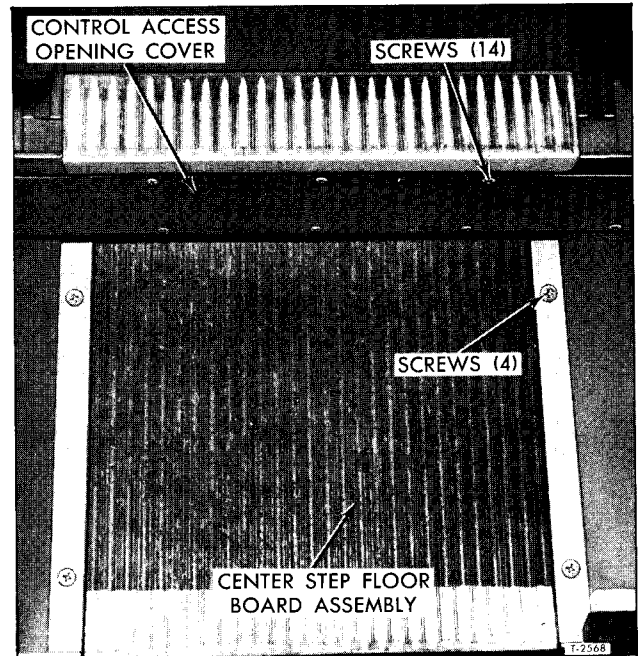
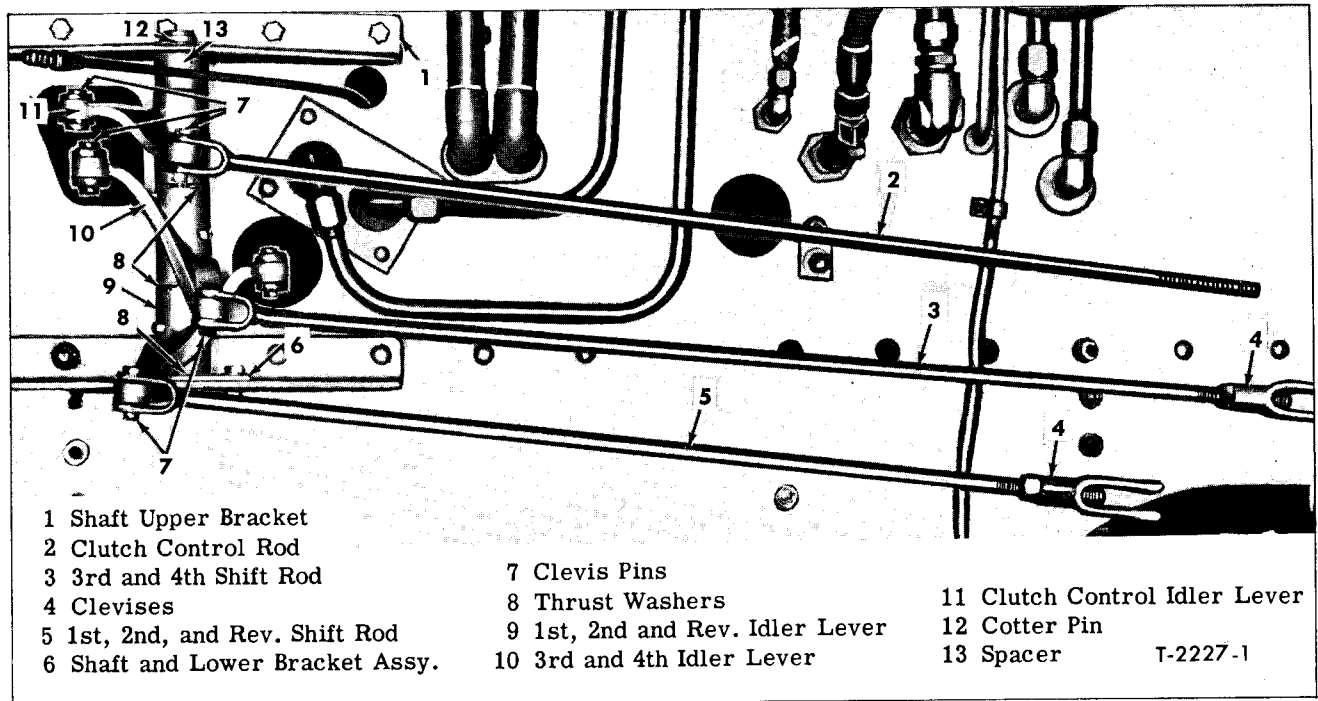
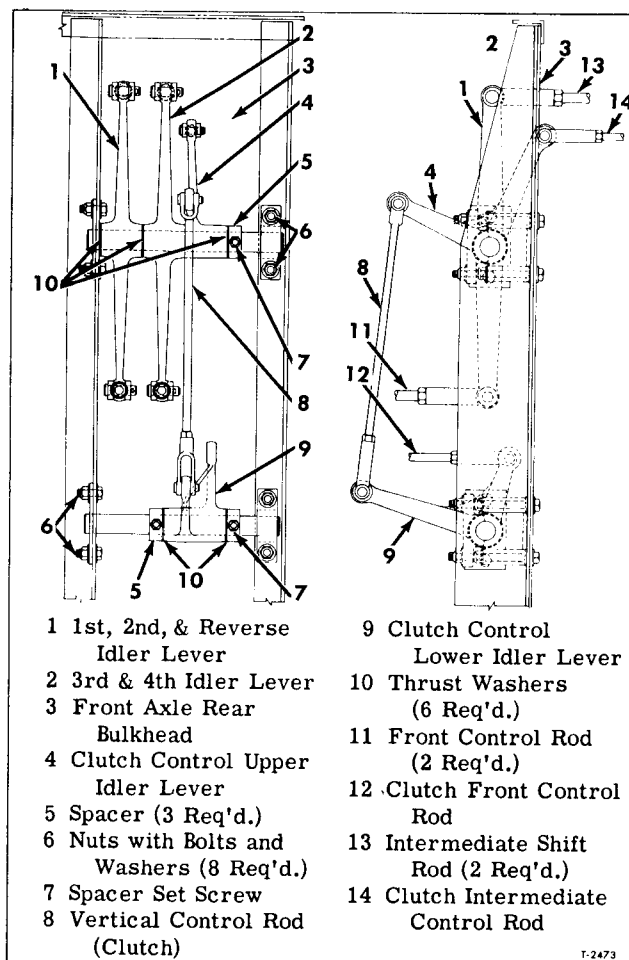

Figure 3—Control Access Cover Installation
Figure 5—Control Levers at Engine Compartment Bulkhead
Figure 6—Intermediate Idler Lever Installation
1. Remove 14 screws securing control access opening cover and 4 screws securing floor board at center step as shown in figure 3, and remove cover and floor board.
2. With clevises at end of shift rods (14) connected to idler levers (17), observe position of idler levers on bulkhead at rear of front axle and on engine compartment bulkhead. Center of clevis pins in clevises (16 and 18) must be in line with each other and $2.18 \pm .03$ " from bulkhead. Center of clevis pin in bellcranks (22 and 23) must be centered on a line 1.5" from bulkhead. If necessary adjust adjustable clevis to bring about condition described. Tighten lock nuts (15) at clevises when adjustment is completed.
3. With transmission levers in neutral position adjust clevises on bellcrank-to-transmission rods (5 and 8, fig. 5) so clevis pins can be installed without moving gearshift control rods or transmission shift levers out of neutral position.
1. Gain access to intermediate controls by removing intermediate control access cover (fig. 3).
Lever Assemblies. Bellcrank type levers located on front axle rear bulkhead (fig. 6) and engine compartment bulkhead (fig. 5), use nylon lined shaft bearings which do not require periodic lubrication. If levers or bearings are damaged or worn replace as follows:
INTERMEDIATE IDLER LEVERS (Fig. 6)
REAR IDLER LEVERS (Key numbers in Fig. 5)
7. Assemble parts on shaft and lower bracket assembly (6) in the following order, referring to figure 5 for position of idler levers; two thrust washers (8); idler lever (9); two thrust washers (8); idler lever (10); two thrust washers (8); idler lever (11); and spacer (13).
8. Insert upper end of shaft through upper bracket (1) and position lower bracket at bulkhead bracket. Attach lower bracket to bulkhead bracket with two bolts, washers, and nuts. Tighten nuts to 20-25 foot-pounds torque. Tighten upper bracket to bulkhead bolts. (Nut torque is 20-25 ft.-lbs.; bolt torque is 35-40 ft.-lbs.)
9. Check clearance between upper end of spacer (3) and lower side of upper bracket (1). Install spacing washer (8) at this point if necessary to maintain 0.010" to 0.020" working clearance.
10. Connect control rods to idler levers with clevis pins (7) and cotter pins.